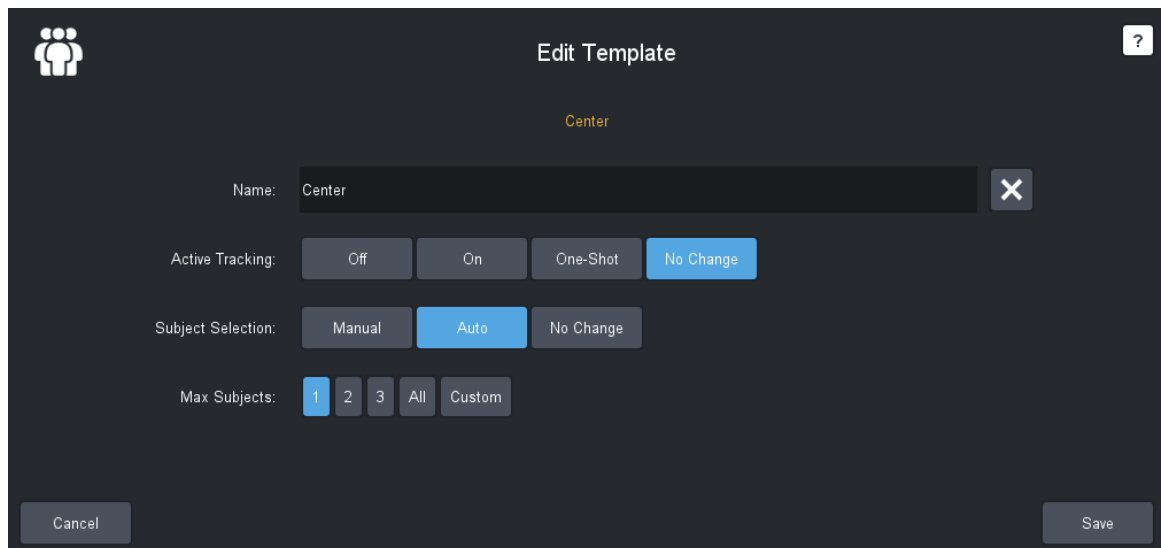

Figure 108 - The Edit Template Dialog Box
1. In the list of framing templates, click the template you want to edit. The **Edit Template** dialog box appears (Figure 108).